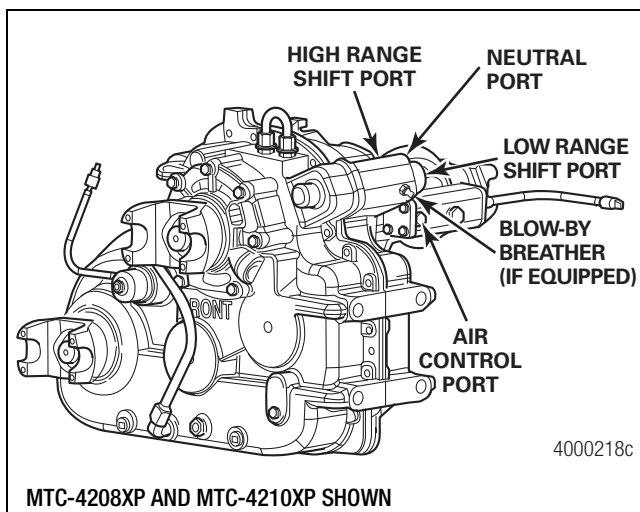

Figure 6.50
4. Apply 60 psi (4.14 bar) or greater of air pressure to the high-range shaft air port. Figure 6.50.
7. Apply 60 psi (4.14 bar) or greater of air pressure to the low-range shaft cylinder air port. Figure 6.50.
10. For PTO-equipped cases, apply 60 psi (4.14 bar) or greater of air pressure to the neutral shift location. Figure 6.50.